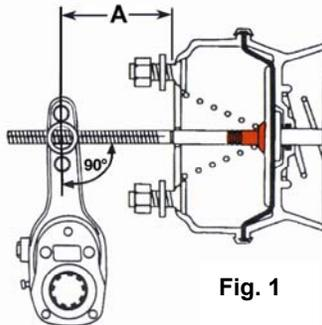

Fig. 1
Step 3 - With the slack adjuster parallel to the bottom of the chamber, or 90° to the push rod as shown in Fig. 1, measure the dimension, “A”, from the bottom of the NPC (mounting base) to the center-line of the hole in the slack adjuster and mark the rod.